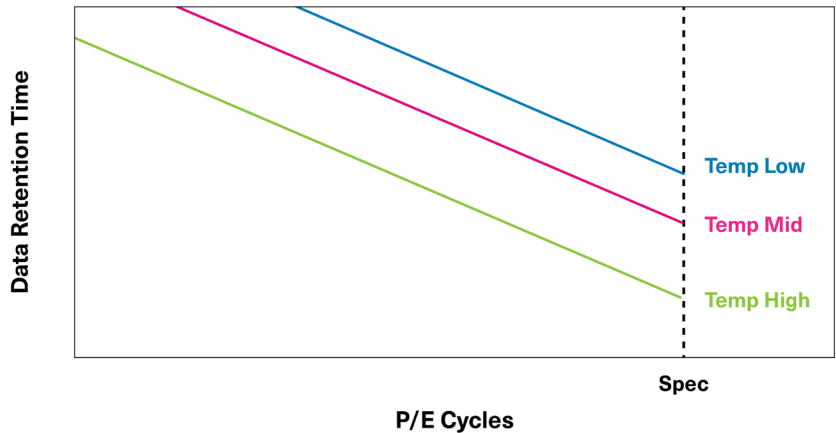

Figure 4: Extreme temperature variances based on data retention time and P/E cycles
Automotive electronics can experience wide temperature variations depending on their location in a vehicle, and the effects of extreme heat or cold can cause a big challenge to onboard storage and booting of the compute and storage systems. From a data storage perspective, NAND is typically not affected by low surrounding temperatures, such as 40° Celsius (C), however, high temperature can drastically decrease NAND data retention. It is important to note that the represented data retention (Figure 4) requires log scaling (versus linear scaling) to show that it is exponentially reduced4 (or that it is a logarithmic representation versus a linear one).